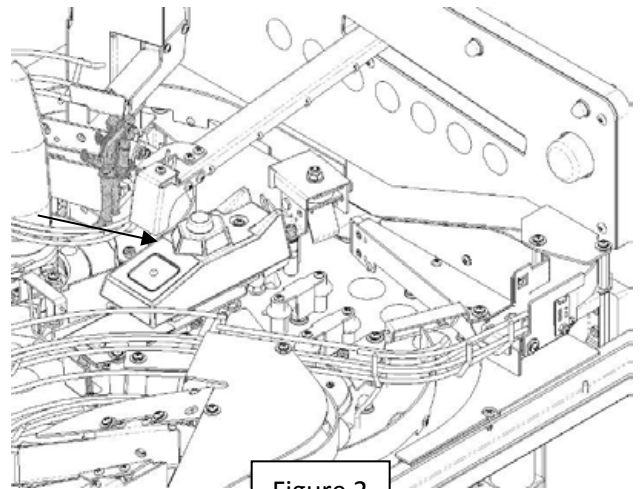

Figure 2
1. Manually move the boom to the tank drop off location. See Figure 2.